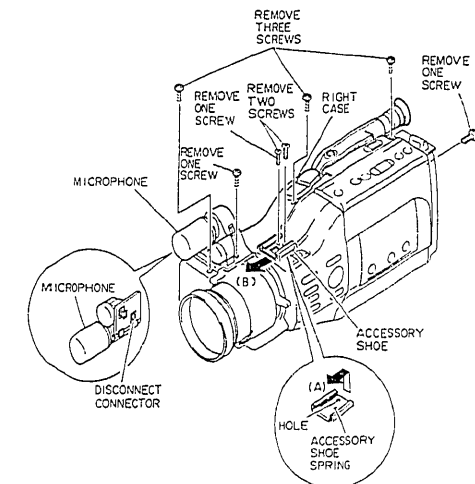
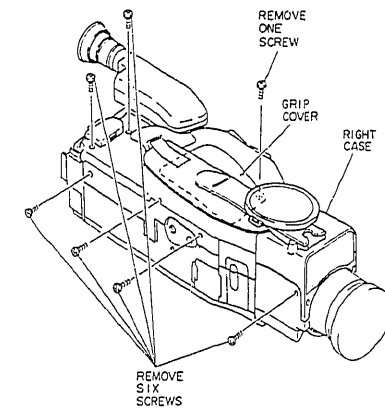

Fig. 2-2
Fig. 2-3
- 1) Insert a flat-bladed screwdriver, etc. into the hole in the accessory shoe spring and remove the accessory shoe spring in the direction of arrow (A). (See Fig. 2-2)
(2) Accessory Shoe
- 2) Remove two (2) screws and remove the accessory shoe in the direction of arrow (B). (See Fig. 2-2)
(3) Right Case
- 2) Remove one (1) screw holding the accessory shoe and right case. (See Fig. 2-2)
- 3) Remove three (3) screws holding the right case.
- 4) Remove one (1) screw holding the left case.
- 5) Remove six (6) screws holding the right case. (See Fig. 2-3)
- (4) Microphone (MIC)
- 8) Remove one (1) screw holding the microphone. (See Fig. 2-2)
- 1) Remove one (1) screw holding the grip cover. (See Fig. 2-3)